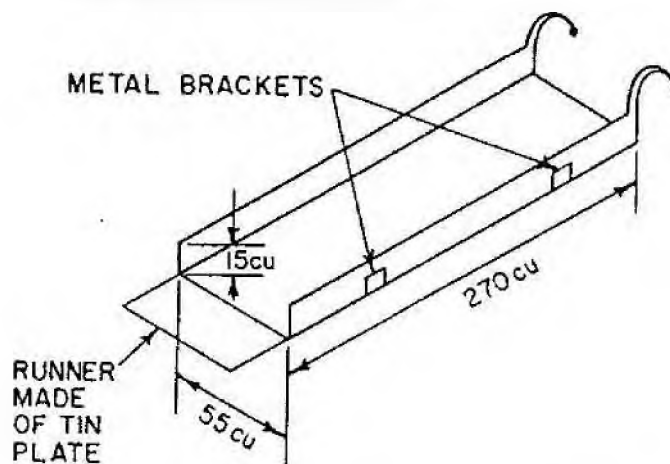

Figure 7-6. Soviet mine laying chute for rear of truck.
b. If a chute is used it is attached to the back end of the vehicle. Numbers 1 and 2 remain in the vehicle and take turns sliding the mines down the chute in such a way that the mines are dropped at predetermined distances. The remaining personnel carry the mines to their respective rows and arm them. (See fig. 7-6 for illustration of chute.)